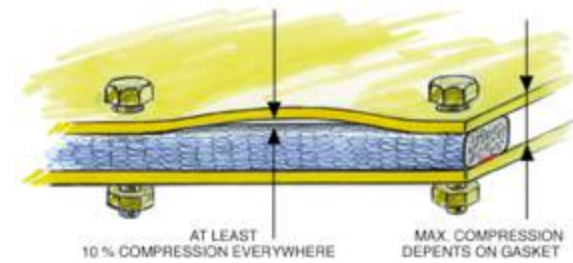

Figure 24.1 : The pressing force on the panels of the housing is minimized.
- Level III A 26 32 Seams (Fig. 24.1)